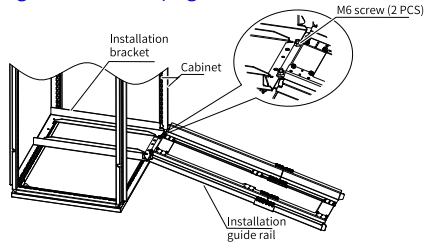

Figure 1-12 Mounting the guide rails to the cabinet
- b. Align the two round holes at the front end of the mounting rail with the screws of the mounting bracket, and then lock the guide rail to the cabinet with two M6 nuts, as shown in "Figure 1-12 " on page 26 .